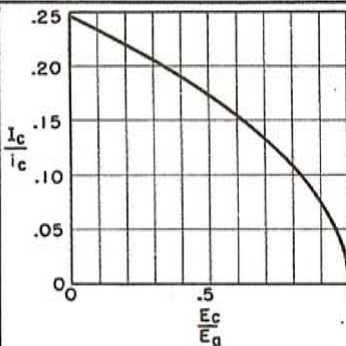

Figure 4. Curve from which ratio of  $\frac{I_c}{i_c}$  is obtained.
To get the dc grid current,  $I_{c1}$ , we first have to calculate  $\frac{E_c}{e_g}$  the ratio of the grid bias to the peak rf driving voltage and then from Figure 4 get  $\frac{I_c}{i_c}$  the ratio of average grid current to the instantaneous grid current at  $E_c = E_b$ . The instantaneous grid current is obtained from the characteristic curves.
Then, the average grid current,  $I_{c1} = i_{c1} \times (\text{ratio } \frac{I_c}{i_c} \text{ from Figure 4}),$  (amperes) (5)
$$\text{From Figure 4, } \frac{I_c}{i_c} = 0.175$$